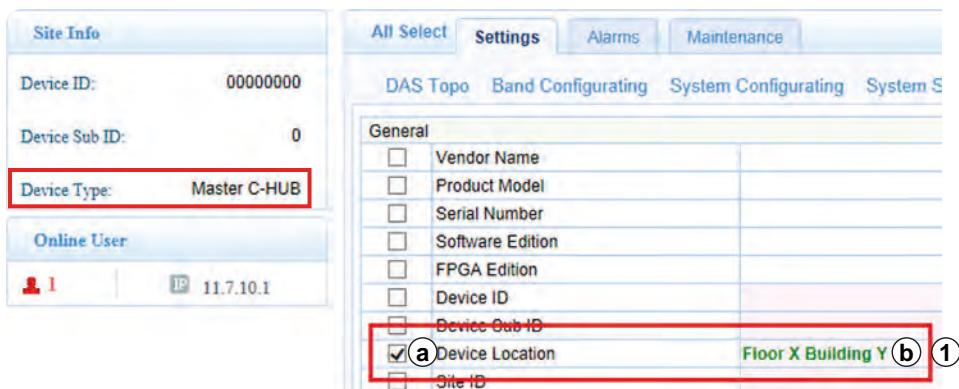

Fig. 8: Settings of the LAN connection (C-hub)
1. Go to **Settings ▶ LAN Connectivity**; see example in Fig. 8.
2. Select **Device Location** ①ⓐ and enter the correct location in field ①ⓑ.